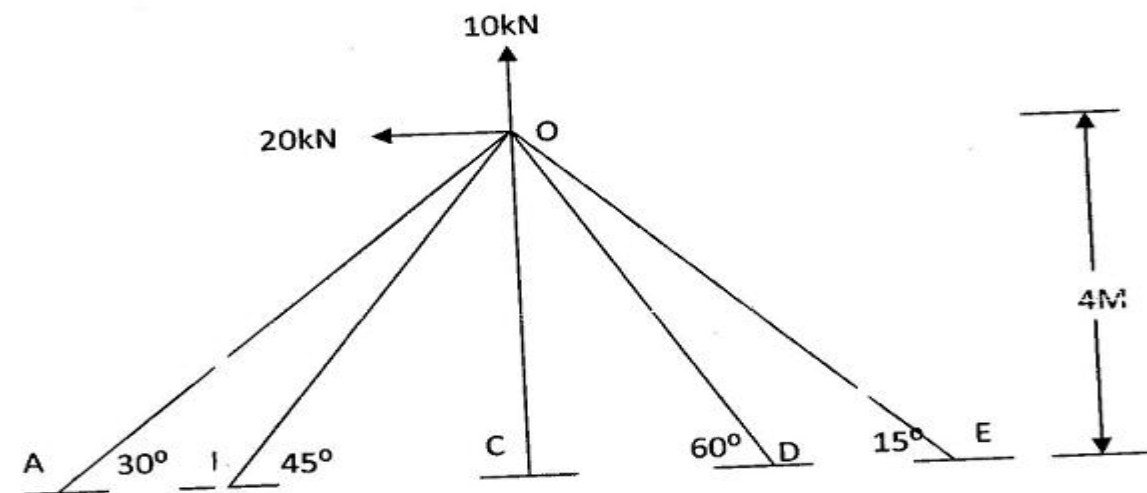

Fig. 5
- 16 Analyze the plane truss shown in Fig. 5 using stiffness matrix approach.